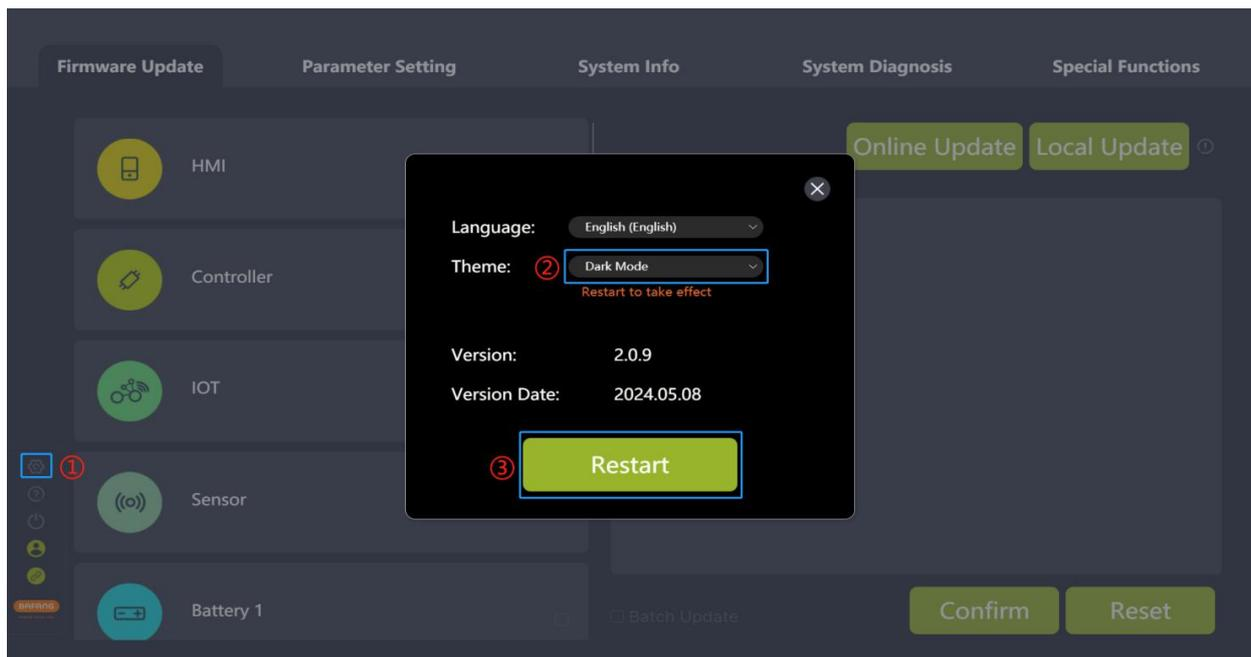

Fig. 9-4 Theme
- (1) Click "Settings".
- (2) Select your desired theme in the drop-down list (Fig.9-4).
- (3) Click "Restart". Restart the software and the setting will take effect.
- (4) **Tip:** For the MAC version, click "Close" and restart the software manually and the setting will take effect.